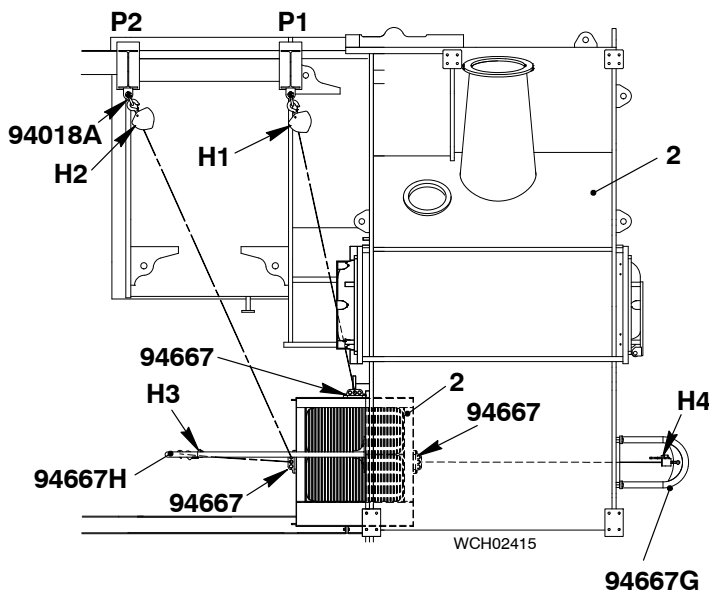

Fig. 6
- 1) Attach the tool (94667, Fig. 6) to the front of the water separator (2).
- 7) Operate the manual ratchet (H3) to pull the water separator (2) sufficiently so that you can attach the tool (94667). At the same time, operate the manual ratchet (H2) to hold the mass of the water separator.
- 10) Operate the manual ratchet (H3) to pull the water separator fully from the receiver. Keep the tension on the manual ratchets (H1, H2) to hold the mass of the water separator (2).